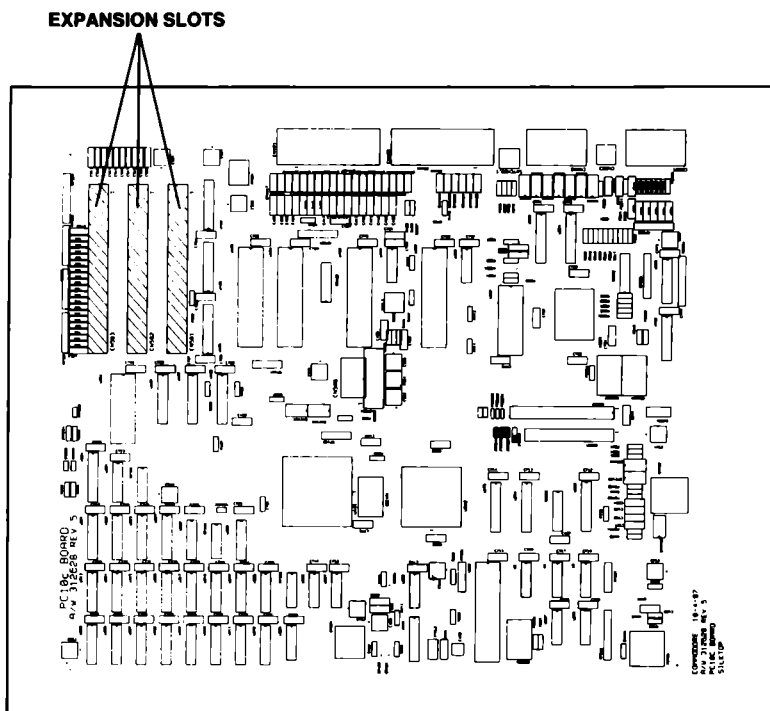

FIGURE 2-9. LOCATION OF INTERNAL EXPANSION SLOTS IN THE SYSTEM UNIT
In addition to connecting external peripherals to your Commodore PC10/PC20 computer, you can insert optional expansion cards in the three internal expansion slots located in the left rear section of the System Unit (see Figure 2-9). Typical expansion items include specialized graphics cards and controllers for tape backup systems for the hard disk.
3. Insert the expansion card in the selected expansion slot (see Figure 2-9), and then connect cables as required (including making a connection to the power supply).